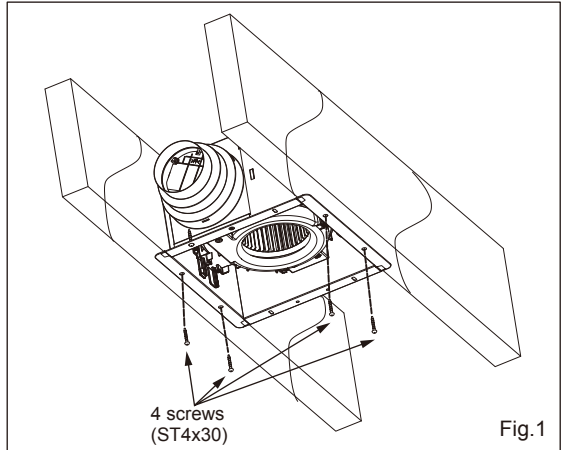

Fig.1
- A** If the spacing L is 12 inches (305 mm) on joists, please follow the installation step as (Fig.1). Secure 4 screws (ST4X30) at flange of frame to the joists. Then follow steps 6 to 9 of installation (page 6-8) to complete the installation.